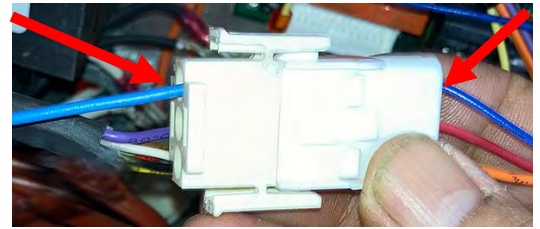

Figure 30
- l. Insert the blue moxex wire from the harness from step e into the 3-pin connector directly across the existing blue wire (see Figure 30). Gently pull on the connector to ensure it is locked into place.